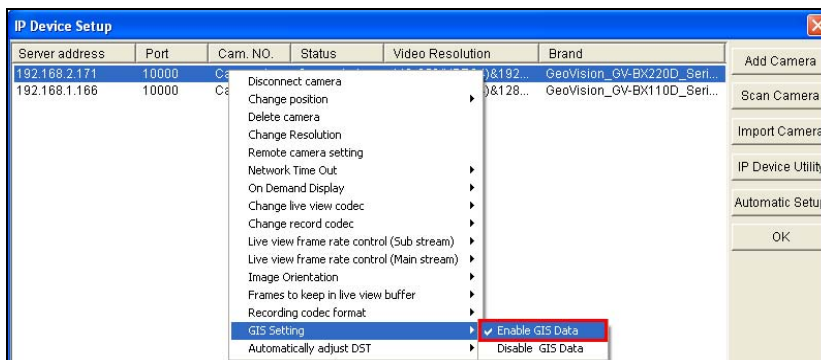

Figure 11-83
2. Ensure **Enable GIS Data** is enabled for desired IP devices to receive the GPS data from those IP devices (Figure 11-83).